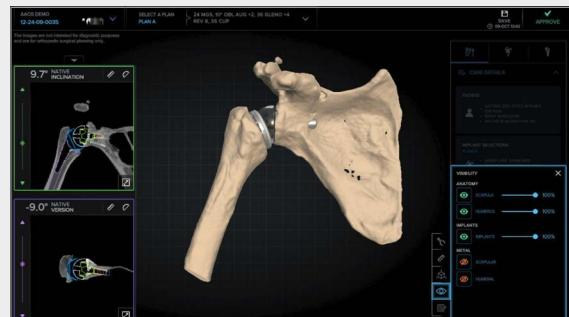

Figure 75. Joint viewer page with available visibility tool selections
- The “Joint Viewer” page will display the Arthrex-selected glenoid and humeral implants in their proposed locations and orientations on both the 2D images and 3D model per the planning protocol. Users may show or hide the anatomy, implants, or proposed implants by selecting the appropriate toggle in the visibility tool as seen in Figure 75.